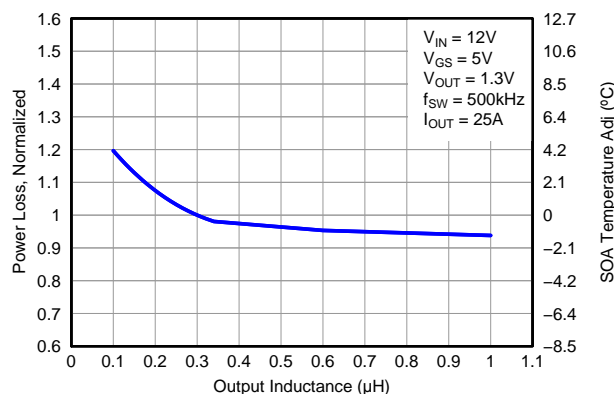

Figure 9. Normalized Power Loss vs. Output Inductance
- Normalized Power Loss for output inductor ≈ 1.07 (Figure 9)
- SOA adjustment for output inductor $\approx 1.7^\circ\text{C}$ (Figure 9)